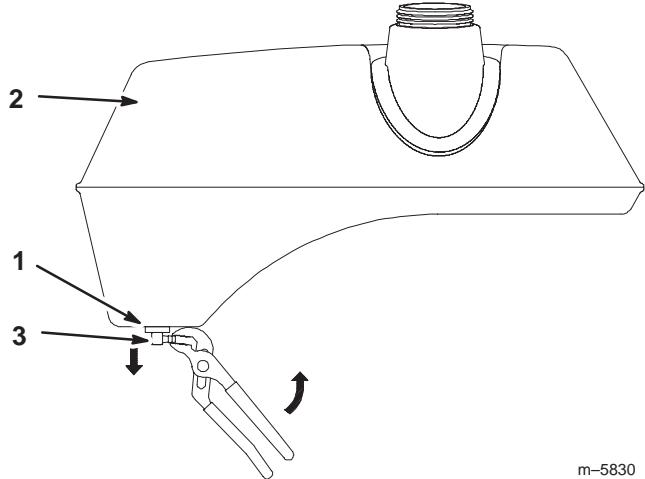

Figure 2
2. Using a pliers, remove the fitting and grommet from the bottom of the fuel tank (Fig. 2).